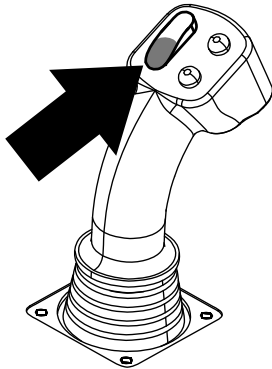
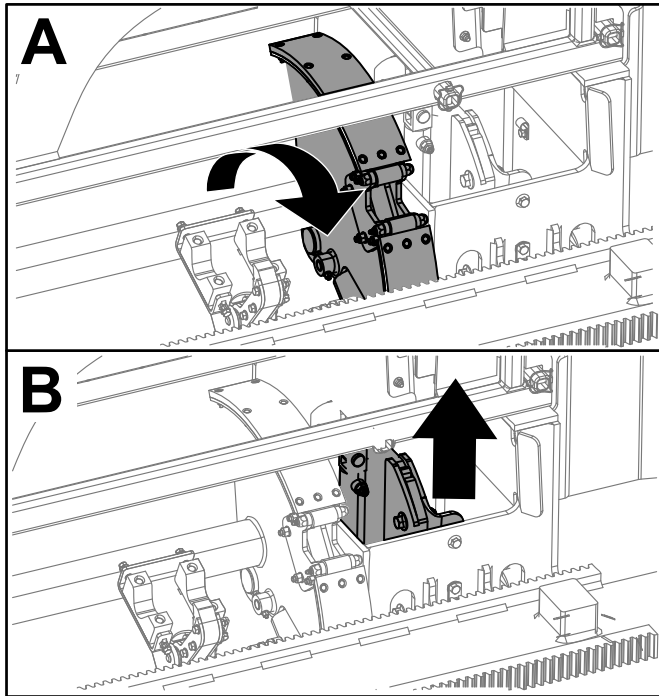

Figure 30
Figure 31
5. Hold the lower section of the rocker switch (Figure 30) until the cam assembly fully rotates forward to the rack and the elevators lift the remaining pipe into the pipe box (Figure 31).